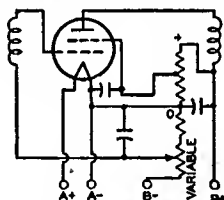

Fig. 80
bleeder circuit by means of a potentiometer as shown in Fig. 80; or (3) from a bleeder circuit in which the bleeder current is varied by a tube used for automatic volume control. The latter circuit is shown in Fig. 56.